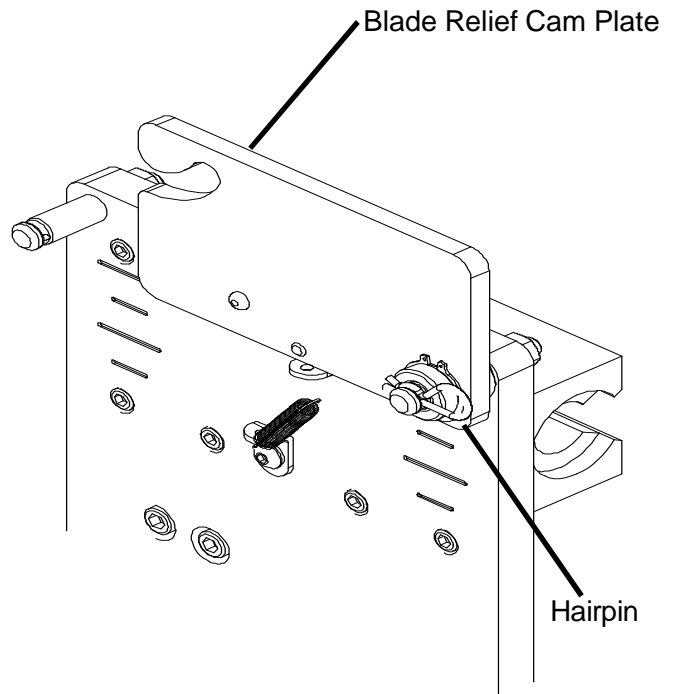

FIG. 6
2. Remove the blade relief cam plate and the spring. See FIG. 6.